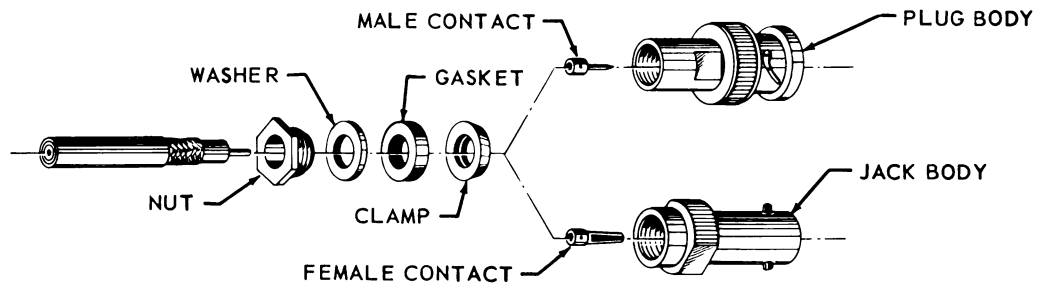

Figure 4-16. Standard BNC Connectors - Exploded View
a. Standard Version (see Figure 4-16) - consists of a plug or jack body assembled to coaxial cable with nut, washer, gasket and clamp. Plug UG-88/U and Jack UG-89/U are typical of this version.
d. Disassemble nut, washer, gasket and clamp from plug or jack body. See Figure 4-16.